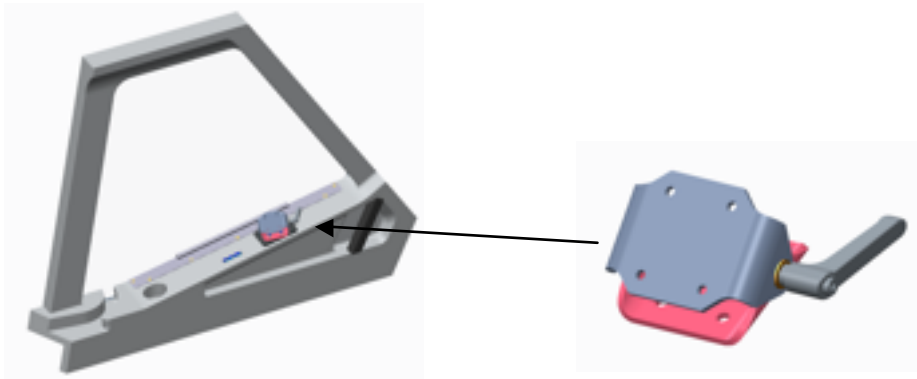

FIGURE 1 - CAPTAIN'S SIDE WINDOW MODIFIED WITH EZMOUNT™ TILT
- » Modification to the existing captain's side window trim by adding four (4) holes to allow spacers to contact the mounting brackets under window trim, which is attached to the window frame. The mounting plate and EZMount™ tilt is then installed on the top surface of the spacers. See Figure 1.